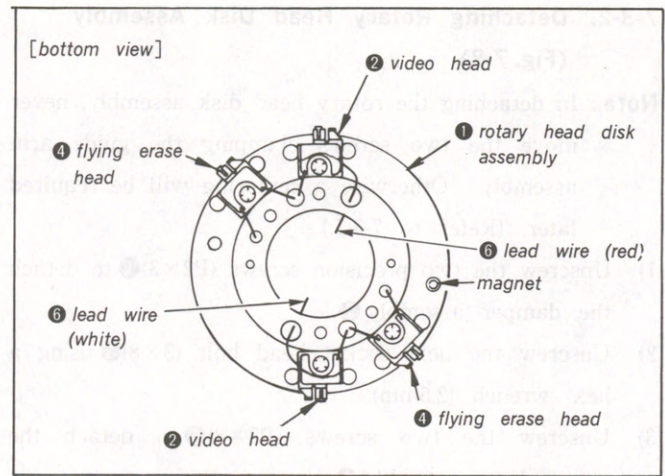

Fig. 7-9. How to attach the rotary head disk assembly (1).
- 1) Solder the two lead wires ⑥ to the video head ② of the rotary head disk assembly ①. (Pay attention to where the magnet is.) Next, pass the lead wires ⑥ through the holes. (Fig. 7-9)